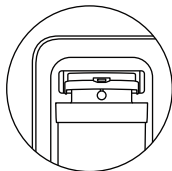

Fig. 3
Hold the filter element parallel to the buckle's guide surface. Insert it smoothly into the corresponding slot on the main unit until it is fully seated. As you insert it, ensure the filter's button engages and fastens securely with the spring buckle, as shown in Fig. 3.
3. Turn off the power and water source: unplug the power plug of the water purifier, close the inlet valve, discharge the remaining water, and press the circular button in the middle, as shown in Fig. 3.